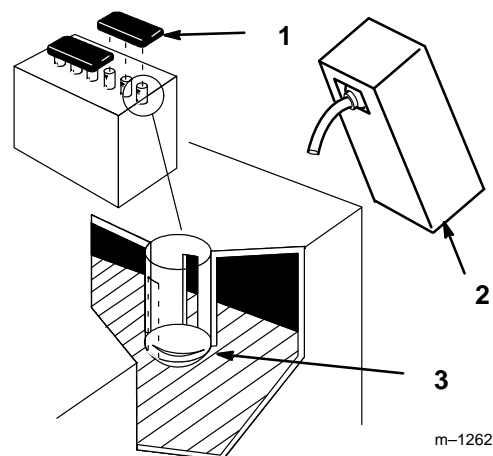

Figure 5
3. Remove filler caps from the battery. Slowly pour electrolyte into each cell until the electrolyte level is up to the lower part of the tube (Fig. 5).
6. Slowly pour electrolyte into each cell until the level is once again up to the "UPPER" line on the battery case (Fig. 5) and install covers.